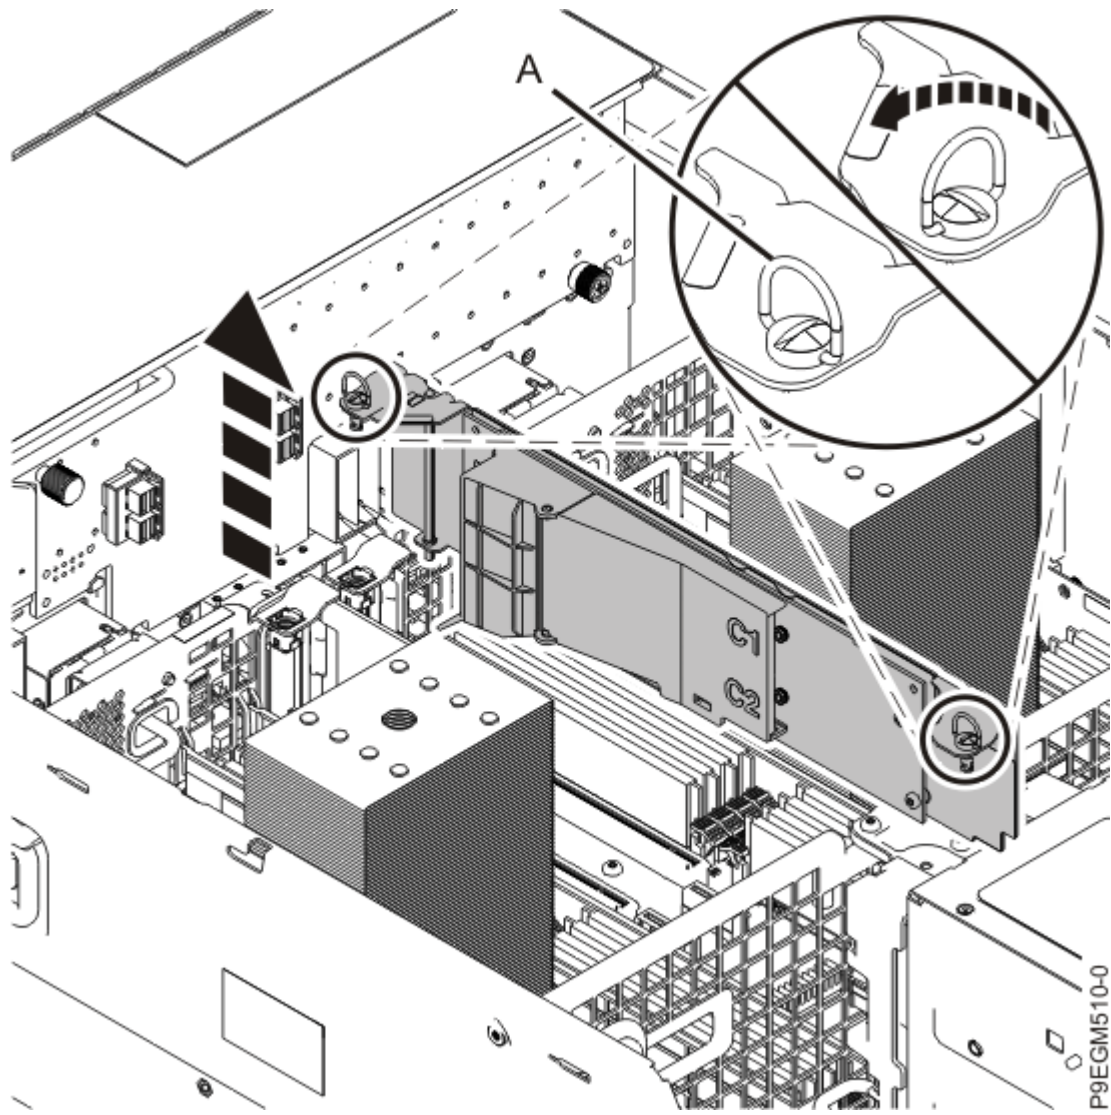

Figure 52. Removing the NVMe M.2 carrier card
4. Lift the NVMe M.2 carrier card out of the slot as shown in Figure 52 on page 61.
5. Lift the NVMe M.2 carrier card out of the slot as shown in Figure 52 on page 61.